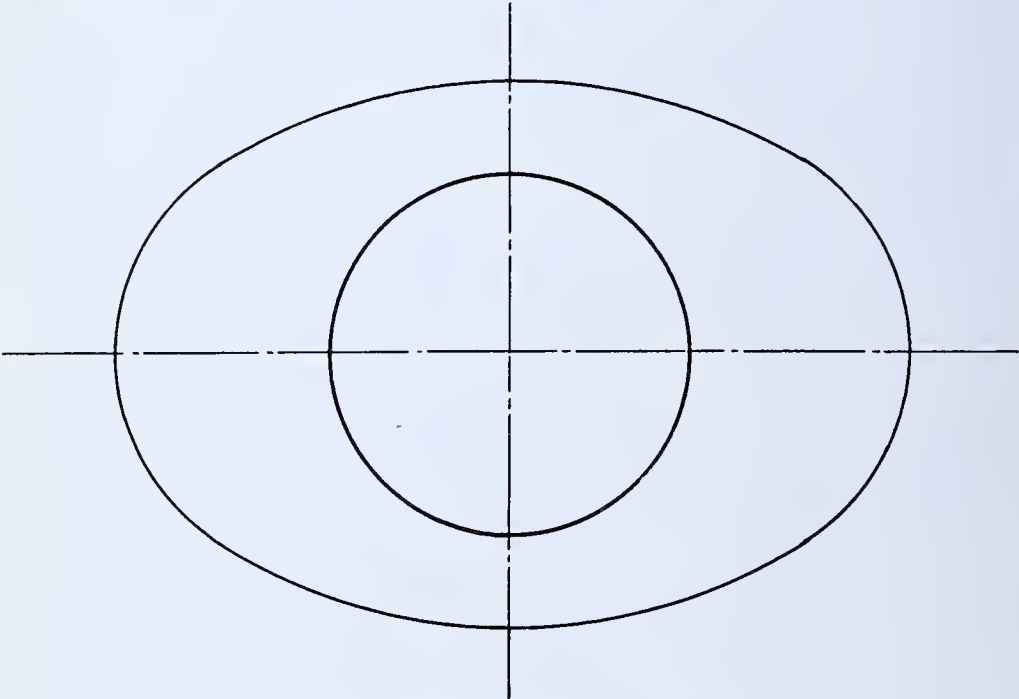

FIG. 321 — *Layout of Umbrella*
1. Make a full-size layout of the job as shown in Fig. 321.
20. Obtain a piece of template paper approximately two-thirds the size of the layout shown in Fig. 321.